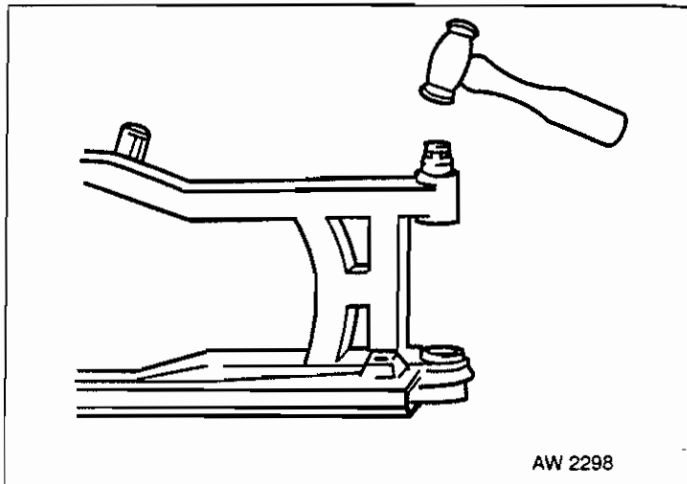

Fig 9.4 Swing Arm Bearing Removal
(2) Fig 9.4 refers. Use a suitable drift to remove swing arm bearings.